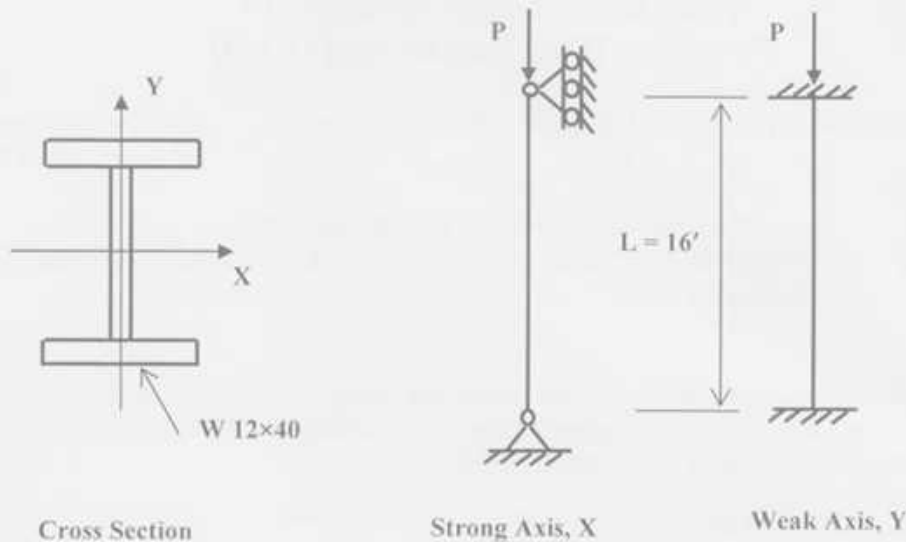

Fig. 3
3. Using AISC/ASD method, determine the axial load capacity, P of the W12×40, A36 steel column section with support conditions for X and Y axis buckling as shown in Fig. 3. 8 1/3